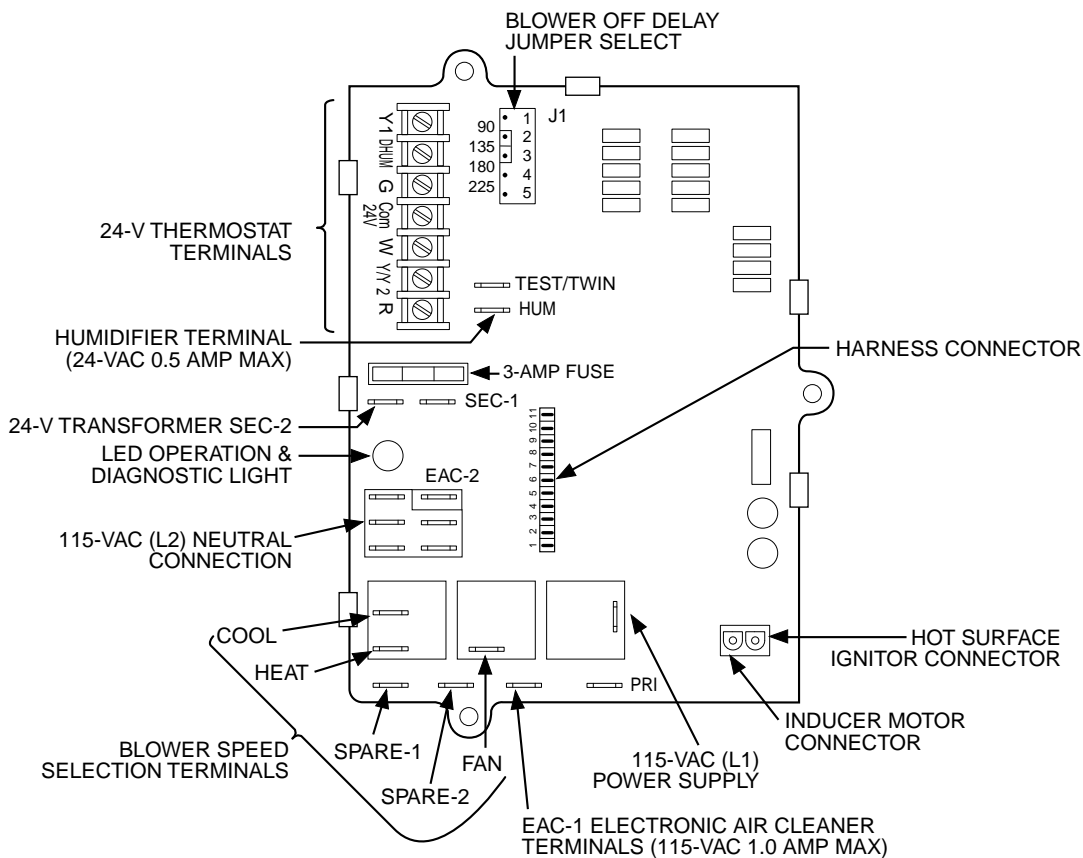
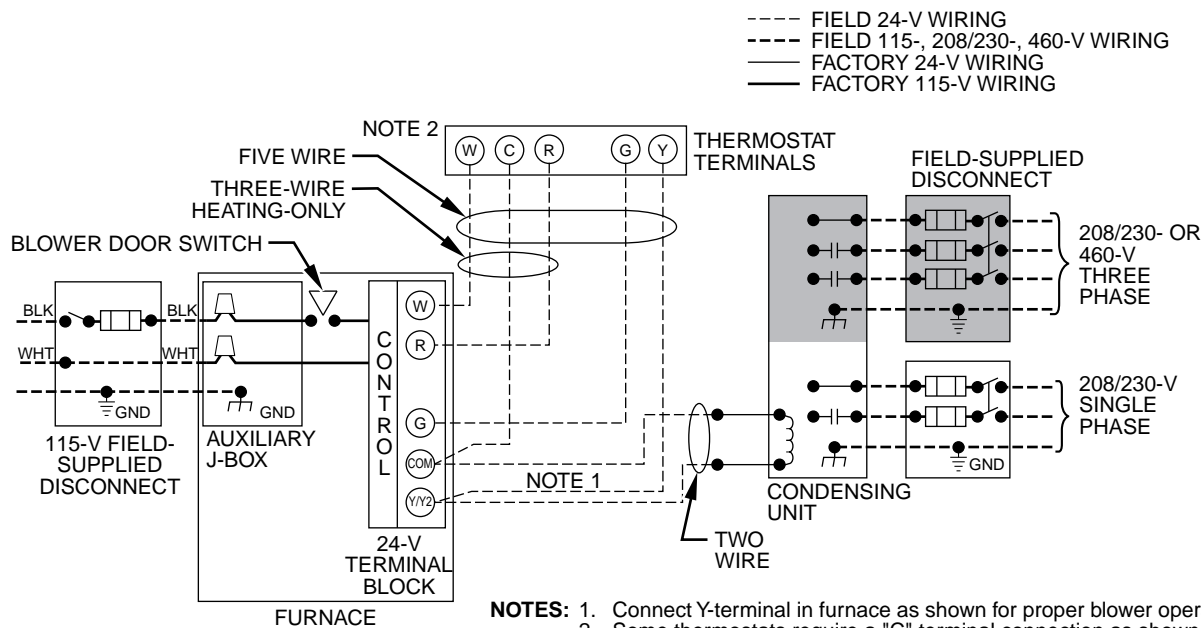

Fig. 14—Furnace Control
Fig. 15—Heating and Cooling Application Wiring Diagram
Make field 24-v connections at the 24-v terminal strip. (See Fig. 14.) Connect terminal Y/Y2 as shown in Fig. 15 for proper operation in cooling mode. Use AWG No. 18 color-coded wire only.
Two quick-connect terminals, marked EAC-1 and EAC-2, are provided for EAC connection. (See Fig. 14.) These terminals are energized with 115v (1.0-amp maximum) during blower motor operation.
a. Single-Speed Outdoor Unit—See figures 15, 16 and 18.
When thermostat is satisfied, R to G and Y/Y2 circuits are opened. The outdoor unit stops and the furnace blower continues operating on COOL speed for an additional 90 sec. Jumper Y/Y2 to DHUM on the furnace control can set the cooling off-delay to 3 sec from 90. See figure 14.
This feature helps diagnose a system problem in case of a component failure. To initiate component test procedure, short (jumper) the TEST 3/16-in. quick connect terminal on control (behind the Y/Y2 terminal) and the COM-24V terminal on furnace thermostat connection block for approximately 2 sec. (See Fig. 14.)